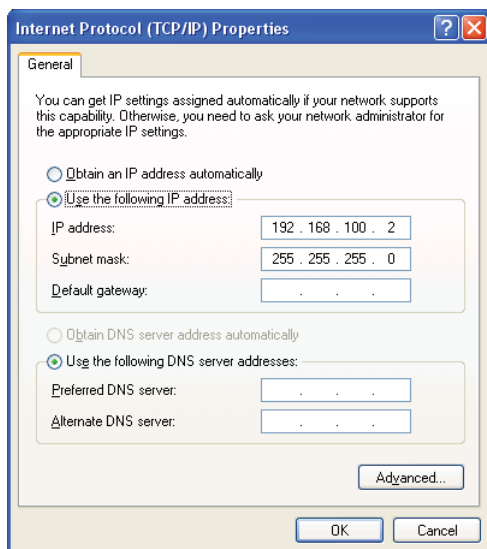

Fig. 2-14, Internet Protocol (TCP/IP) Properties Screen
7. The Internet Protocol (TCP/IP) Properties dialog box will open (Fig. 2-14). Enter the values as shown. Record the existing IP address and Subnet mask in order to later return the computer to its original state.